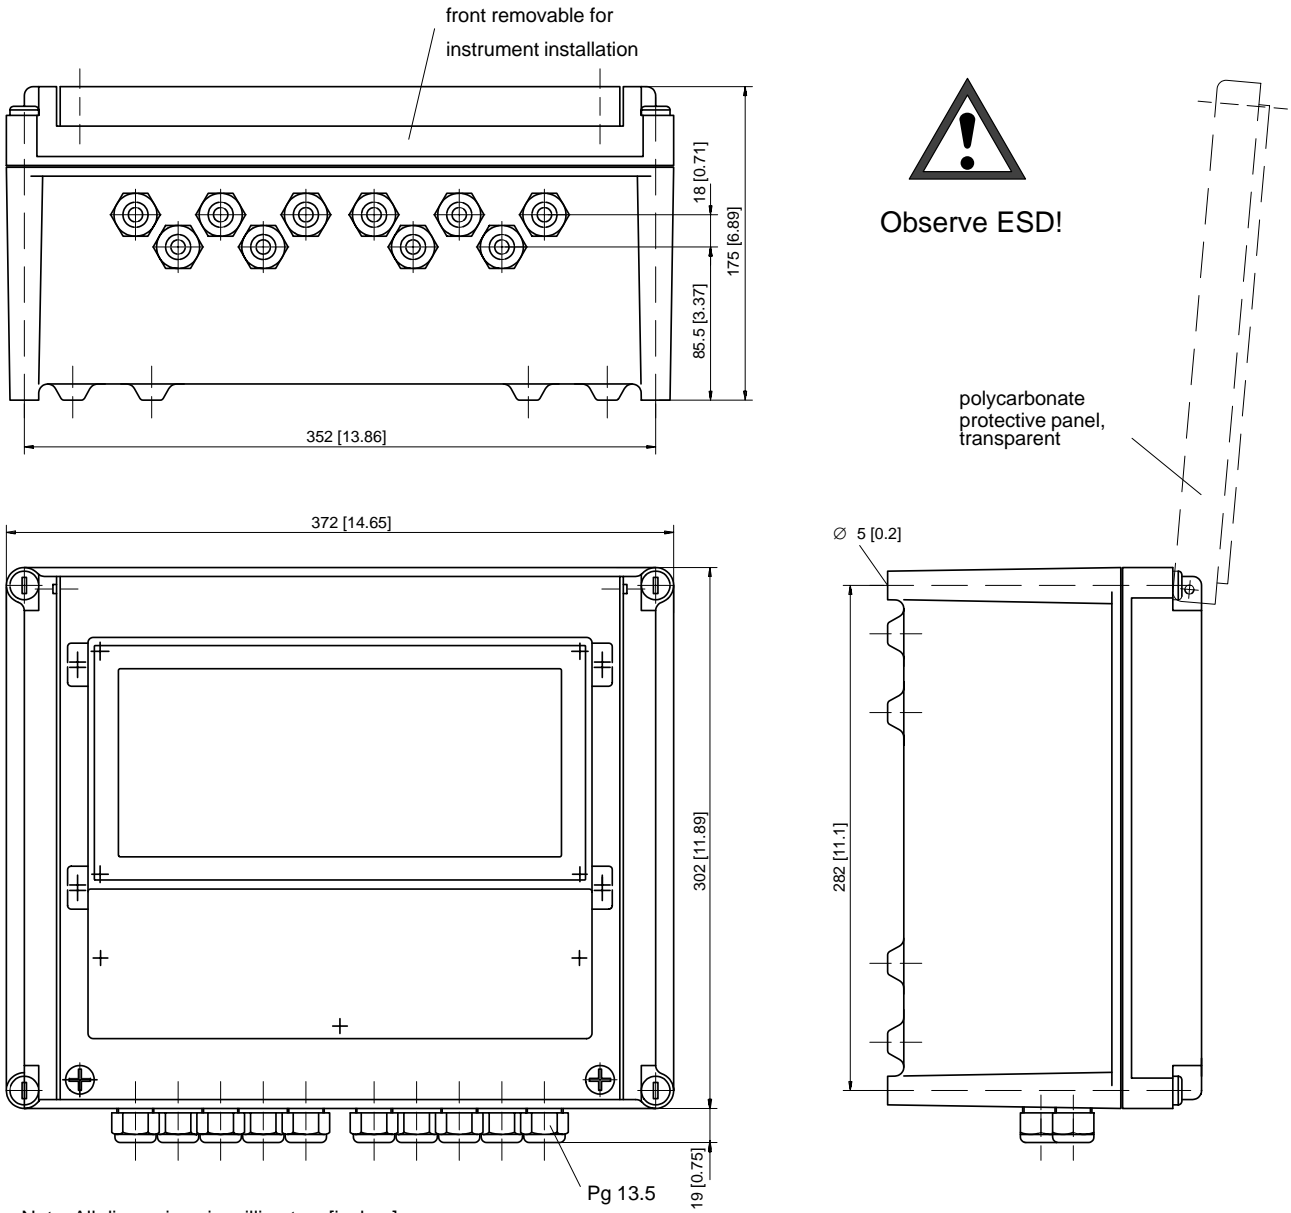

Fig. 1-3 Dimension Drawing ZU 0124 Protective Case
- ZU 0124 protective case provides optimum protection against dust, moisture and mechanical damage. For dimension drawing, see Fig. 1-3.